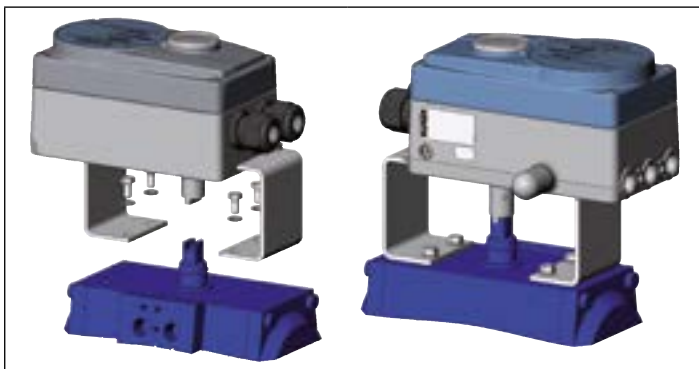

Fig. 13: Rotary actuator attachment
- Place Type 8792/8793 with assembly bridge on the rotary actuator and attach (see "Fig. 13").